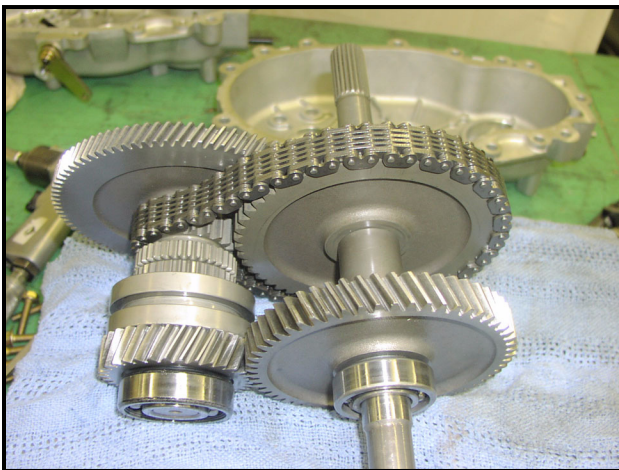

Figure 8-16 Position Gear Assemblies onto Fixture
18. Position the intermediate and output shaft gear assembly onto the fixture covered with a heavy cloth to reduce the change of damage to gear and sprocket teeth (**Figure 8-16, Page 8-7**).